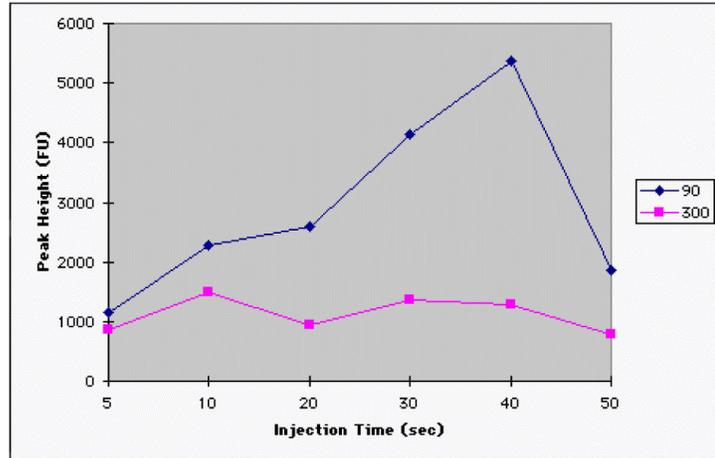
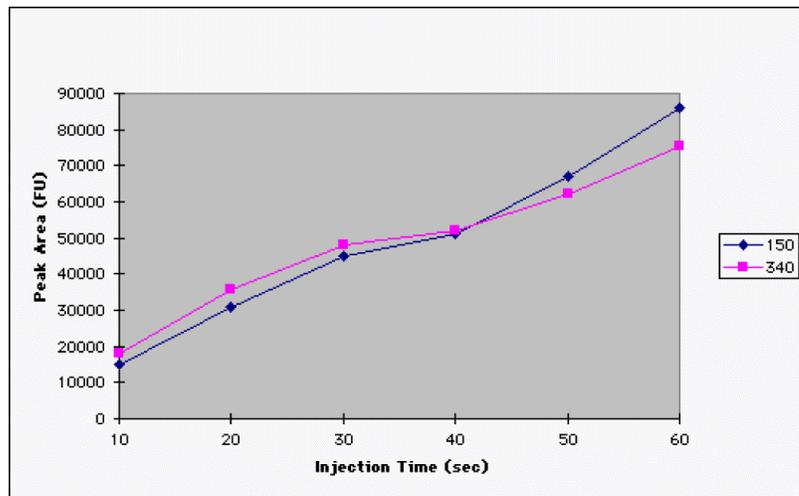

Figure 5-1 Peak height vs. injection time for two different-sized fragments (90 bp and 300 bp)
Figure 5-2 Peak area vs. injection time for two different-sized fragments (150 bp and 340 bp)
- ◆ Signal strength (as measured both by peak height and by peak area) increases linearly with increasing injection time for most applications (Figure 5-1 and Figure 5-2 on page 5-5).
- ◆ However, an n-fold increase in injection time does not result in an n-fold increase in peak height. In Figure 5-1, no improvement is seen after 10 seconds for the larger fragment. The signal decreases dramatically after 40 seconds for the smaller fragment.